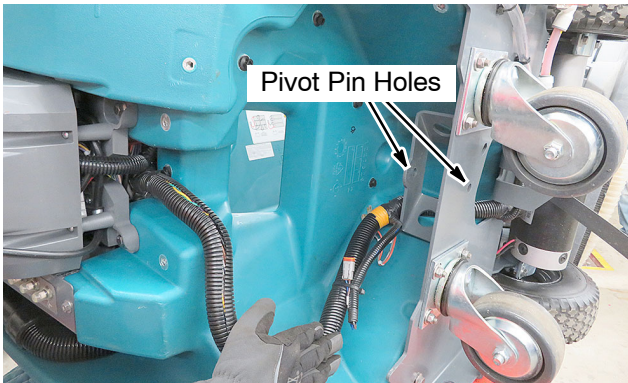

Fig. 4
- Position the main wire harness as shown to prevent the risk of damaging the harness when drilling out the pivot pin holes in the frame (Figure 4).